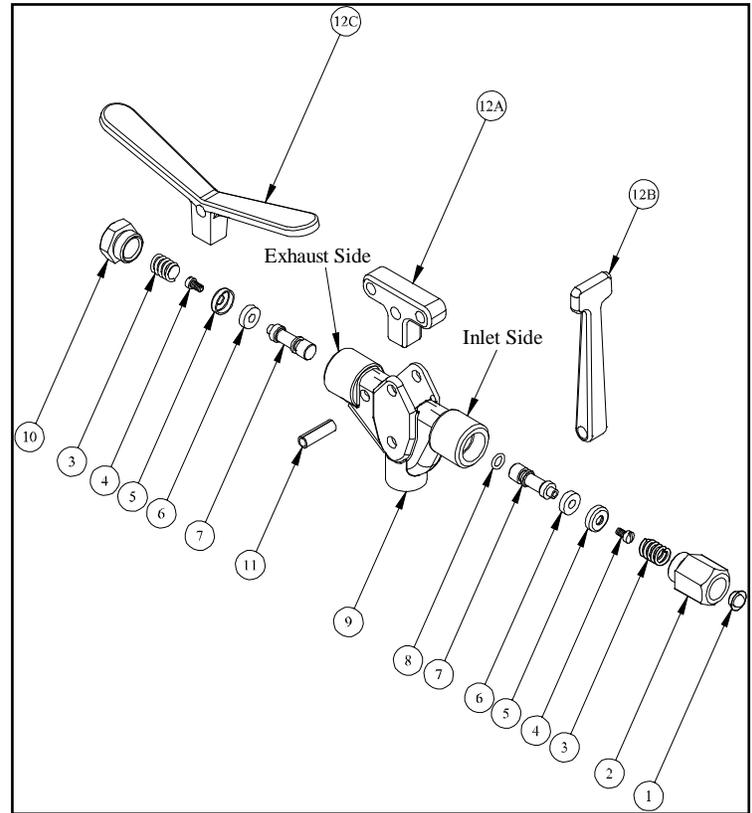

Fig. 7: Air valve exploded view
Occasionally pieces of scale or rust from the airline will become lodged under the rubber seats of the air valve causing air leakage. This leakage is easily detected since lift will rise slowly when you connect the airline to the quick coupler inlet even though the valve lever has not been touched. If this occurs, the Inlet Side of the valve needs cleaning. The lift may also lower slowly when you disconnect the airline from the quick coupler even though the valve lever has not been touched. If this occurs, either the Inlet Side or both sides of the valve needs cleaning. To clean, refer to Fig. 7 and follow these instructions: A. Remove the adapter (2) from the Inlet Side of the air control valve. Inspect screen (1) for foreign particles and clean as required. B. Remove the spool (7) from the body by pushing on spool (7) (from center toward the outside of valve) with a piece of stiff wire or nail. C. Carefully examine the valve seal (6) for any scale, dirt or foreign matter. If foreign matter is embedded in the valve seal (6), remove the screw (4) and cup (5) from the end of spool (7) and clean the seal (6), turn over the seal and reassemble. D. Lubricate the spool (7) with light chassis grease. E. Reassemble the valve in this order: First, insert the spool (7). Make sure that the spool with the O-Ring (8) is reassembled on the Inlet Side. Second, insert spring (3). Third, assemble adapter (2) into inlet side and plug (10) into exhaust side of body (9). The valve should now operate like new.